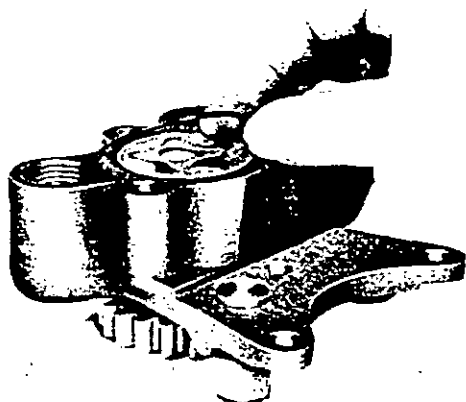

FIGURE 15
- Remove the 'O' sealing ring from the pump body (Figure 15).